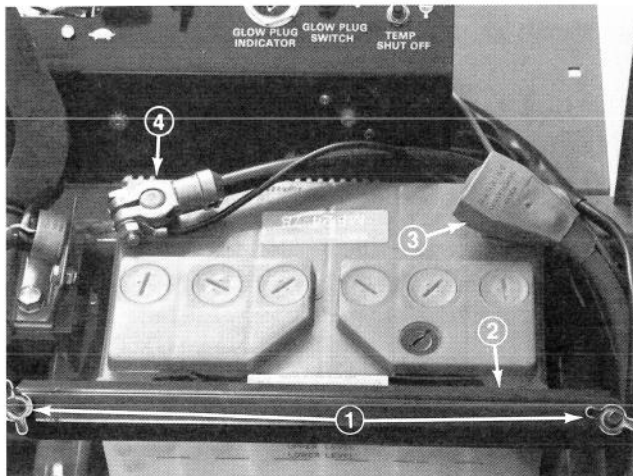
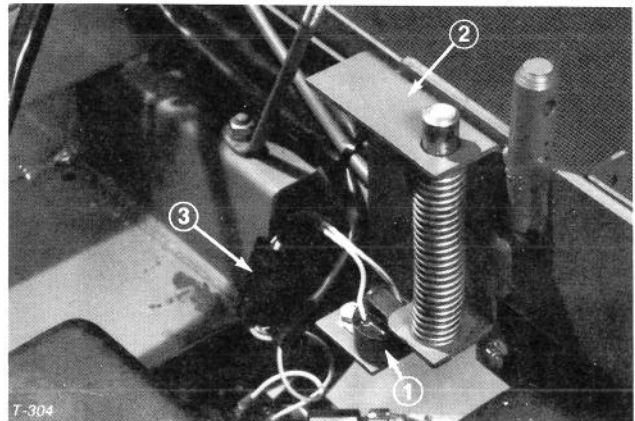

Figure 5
Figure 6
- Remove two wing nuts and the hold down strap that secure battery and seat switch in place (Fig. 5). Lift battery out of Chassis. Keep wing nuts and hold down strap in a safe place for later use.
- (Model 30739 only) Remove (2) flange screws securing sealing plate to frame, over fuel tank. Remove sealing plate.
- Mount seat support bracket to frame (Fig. 6).
- Remove the seat switch from shipping bracket (Fig. 5) and mount to seat support bracket using same fasteners (Fig. 6). Connect switch connector to main wire harness connector (Fig. 6).
- (Model 30739 only) Remove (2) flange screws securing sealing plate to frame above fuel tank. Remove sealing plate.
3. Remove seat switch from shipping bracket and mount to seat support bracket using same fasteners (Fig. 6). Connect switch connector to main wire harness connector (Fig. 6).
1. Install battery and secure with hold down strap and wing nuts (Fig. 5). Remove tape over ends of each cable.
2. Slide the red, positive battery cable (Fig. 5) onto positive battery post and tighten nut securely.
3. Slide the black, negative battery cable (Fig. 5) onto negative battery post and tighten nut securely.
4. Coat both battery connections with either Grafo 112X (skin-over) grease, Toro Part No. 505-47, petroleum jelly or light grease to prevent corrosion and slide rubber boot over positive terminal (Fig. 5).